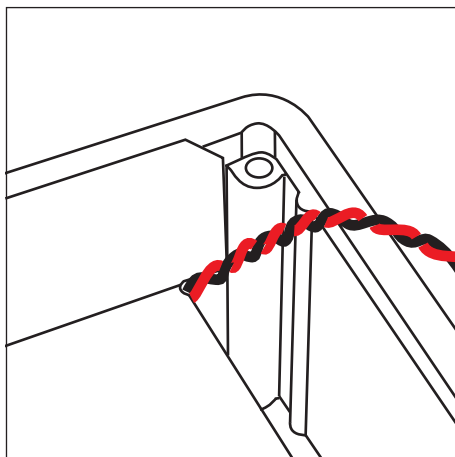

Fig. 41. Route the lead through the notch in the frame.
6. Fit the new battery and cover it with the battery frame. Route the battery cable through the notch in the frame as shown in *Fig. 41 on page 66*.